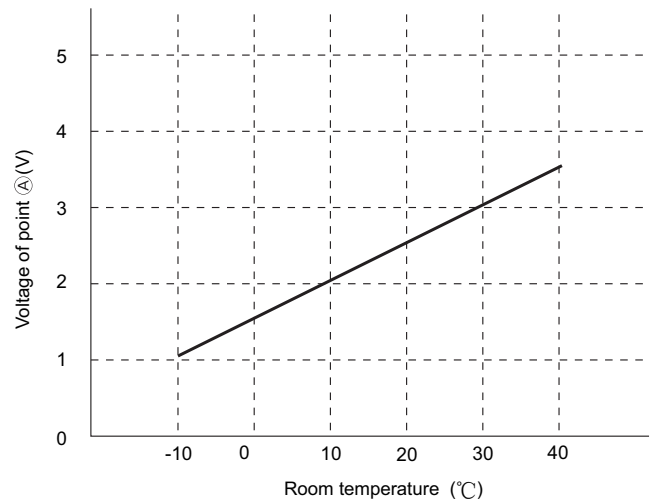

Fig. 4-2
- (1) Preheating
- (2) Low-temperature defrosts at cooling?dehumidification operation time.
- (3) Not working of reversing valve or detection of opening of heat exchange thermistor is controlled.
According to heat exchange temperature, the voltage of point ① becomes as it is shown in Fig. 4-2.